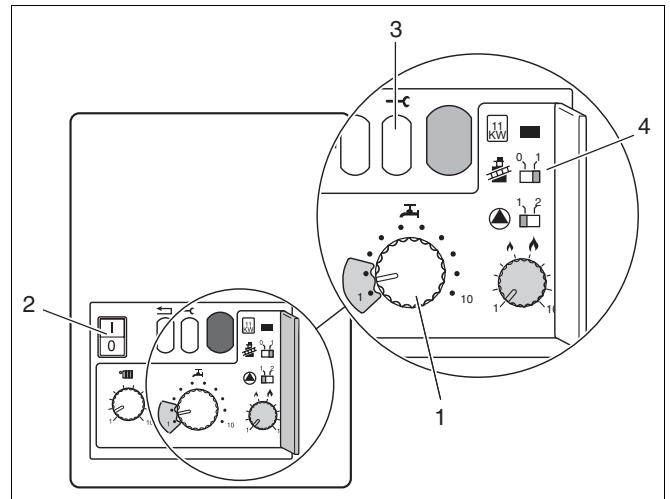

Fig. 21 Mains switch, service button and chimney-sweep switch
- Turn the chimney-sweep switch (fig. 21, item 4) to position "1".
- Turn the power switch (fig. 21, item 2) to position "I". The burner should ignite after about 30 seconds.
- Turn mains power switch (fig. 21, item 2) and chimney-sweep switch (fig. 21, item 4) to "0".
- If the burner has fired after approx. 30 seconds, keep the service button (fig. 21, item 3) pressed until "Y" appears on the display.
- Turn the hot-water temperature controller (fig. 21, item 1) to "1".